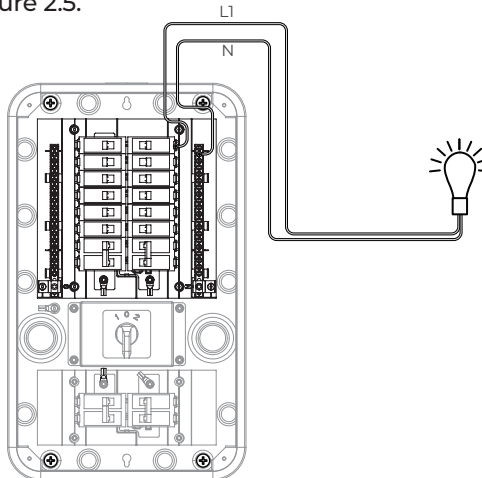

Figure 2.5 Connection of loads to Sub Panel
- 2) Connect the Line Wire, Neutral Wire to the circuit breaker, bus bar on Sub Panel as Figure 2.5.